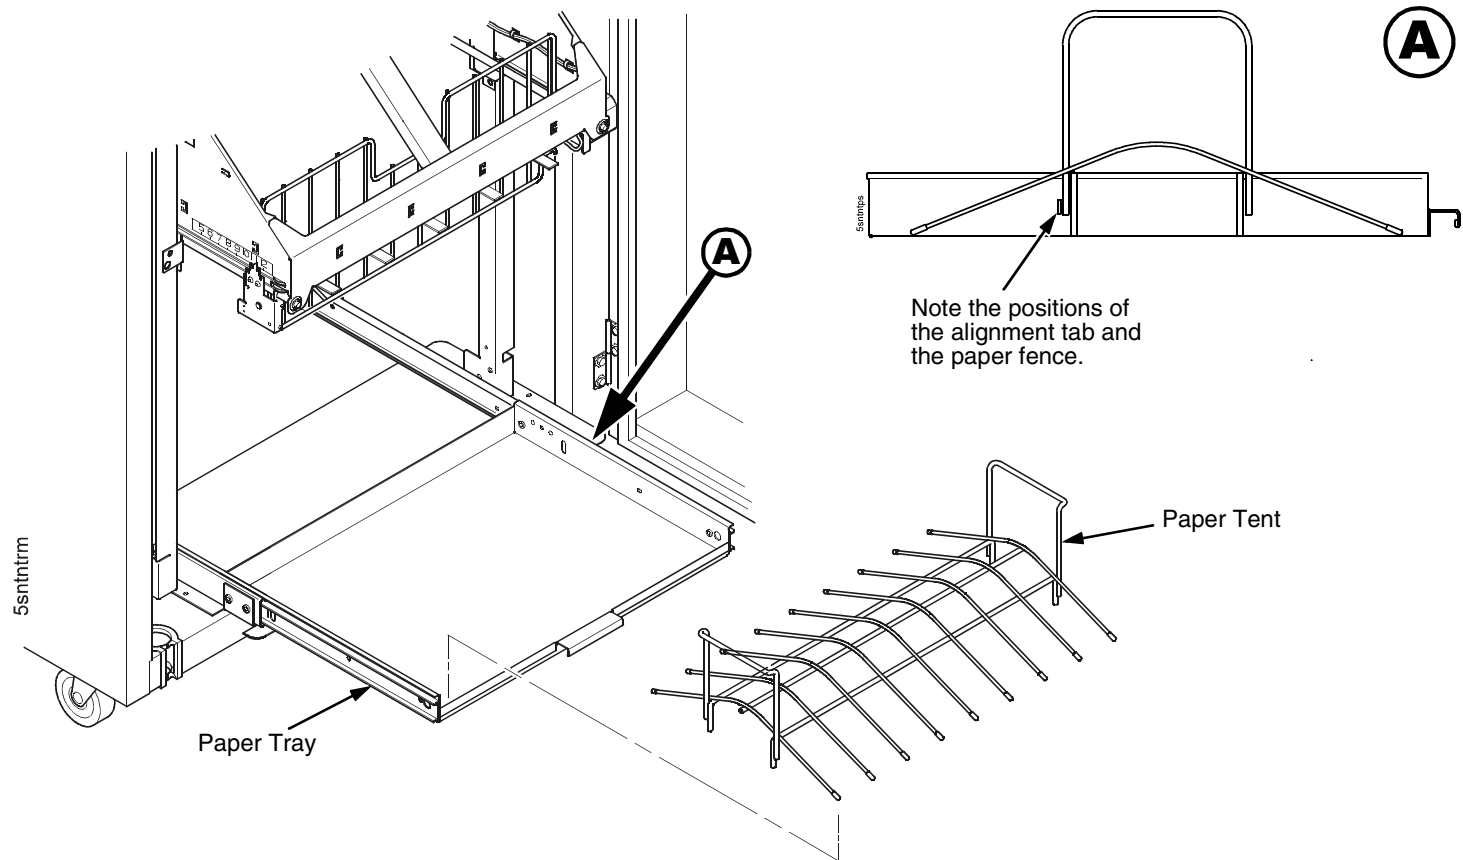

Figure 81. This figure shows how to install the paper tent in the paper tray.
34. If the paper you will use is not wider than 15.5 inches (39.5 cm) install the wire paper tent in the pull out paper tray. (Figure 81.) If the paper is wider than 15.5 inches (39.5 cm) leave the paper tent out of the printer.